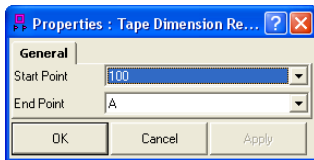

Figure 3-8. General Properties
2. Edit the *Start Point* and *End Point* parameters as needed (Figure 3-8).